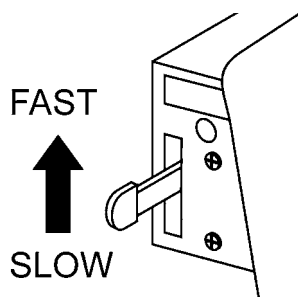

Figure 9. Throttle Lever (Fast Position)
3. Move the throttle lever halfway between the FAST and SLOW position (Figure 9) for starting.
2. Place the engine's throttle lever (Figure 9) in the slow (idle) position.
3. Place the engine's throttle control (Figure 9) in the SLOW (idle) position.
3. Place the throttle lever (Figure 9) in the slow position. Idle engine 3-5 minutes for gradual cooling.